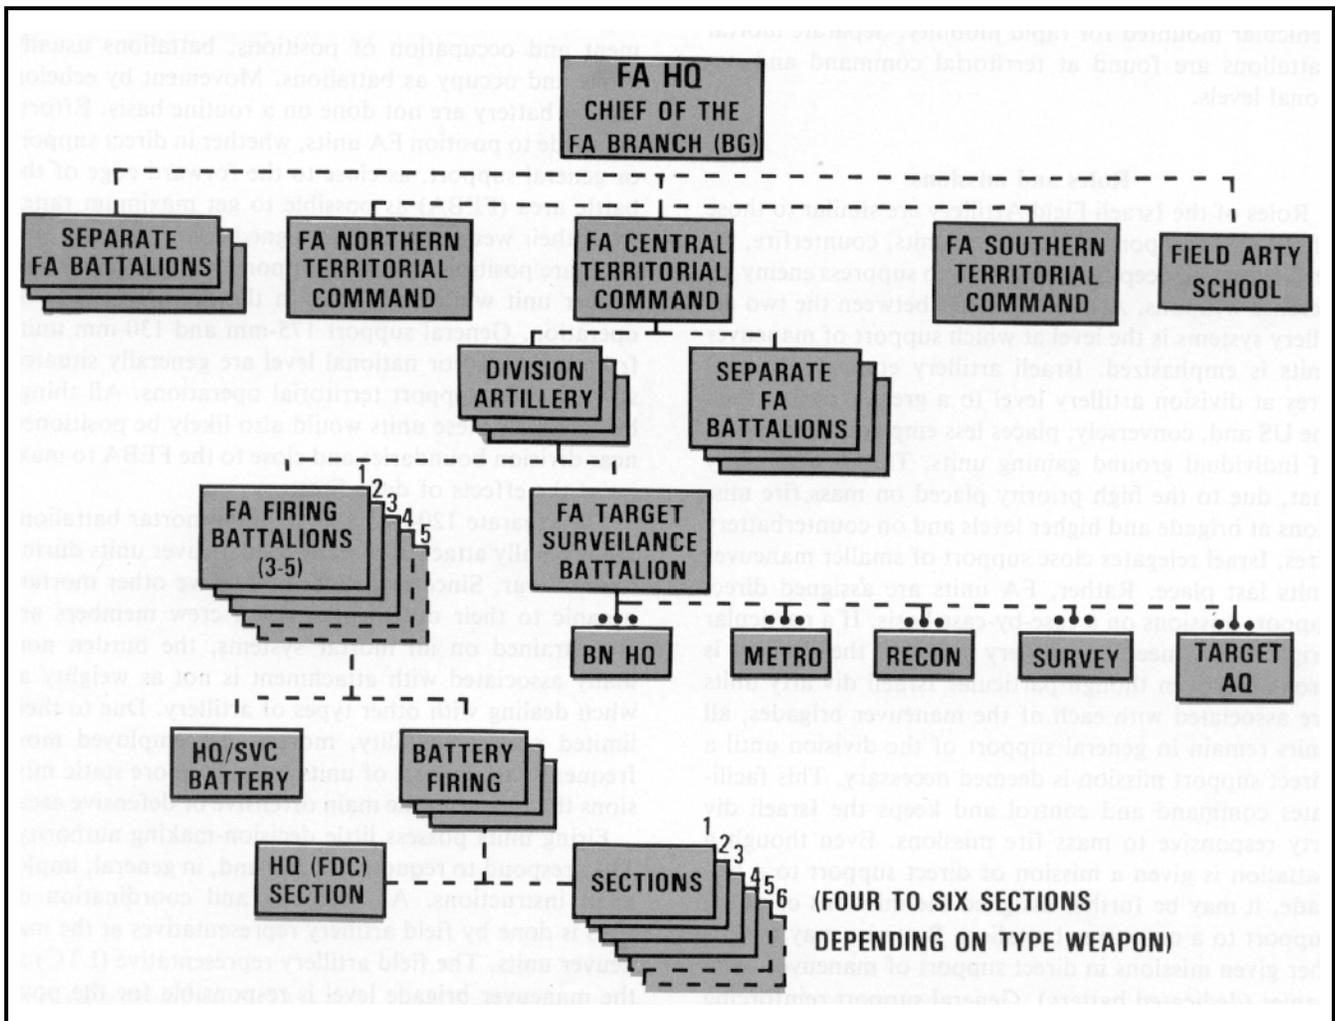

Figure 2. Israeli field artillery (minus missiles).
Figure 2 lists the general organization of the Israeli Field Artillery at levels to division in both the firing (FA) units and supported maneuver units. Of particular